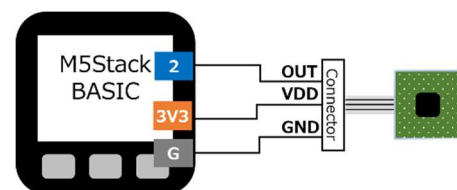

**Fig.1 Magnet**
- ① M5Stack BASIC
- ② USB cable (come with M5Stack)
- ③ Evaluation board for HGDVST022A
- ④ PC w/Arduino IDE & other files (see below)
- ⑤ Neodymium magnet (see Fig.1)